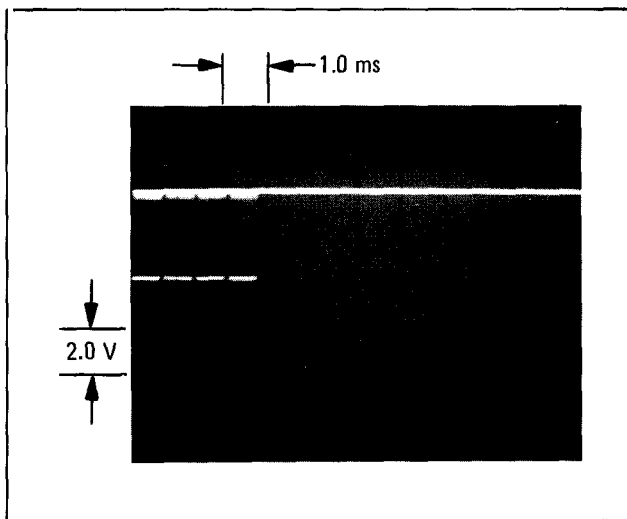

Figure 14. Oscilloscope Display of LF Loop Clock for 4 Data Words at J3-Pin 10 (with dc coupling; external triggering is from J3-Pin 10)
3. Set the Signal Generator's frequency to 500 MHz. Increment the frequency up 1.00025 MHz to select 250 Hz resolution (TB and $\div N$ are 250 Hz). Four words are written to the LF Loop. Refer to Figures 14 and 15.